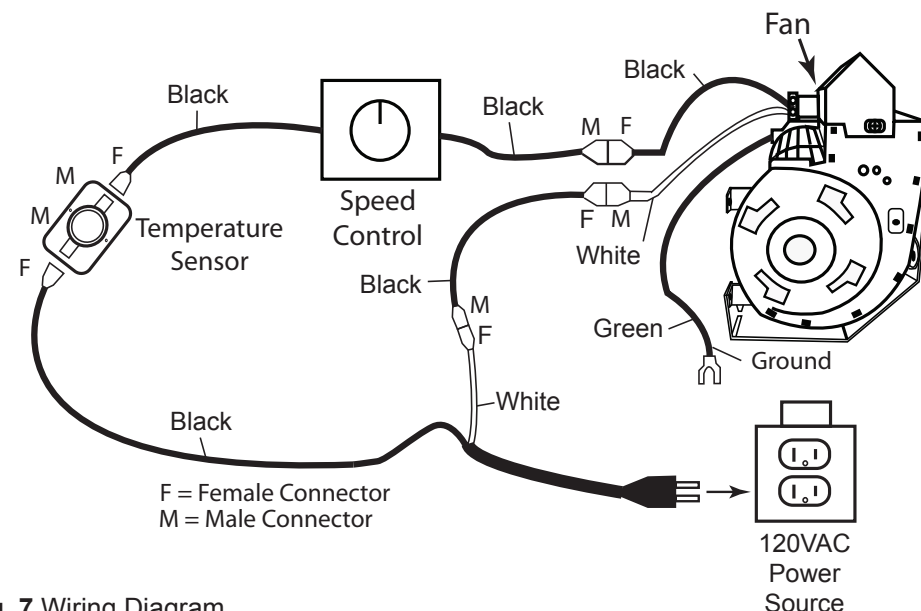

Fig. 7 Wiring Diagram
7. After properly wiring (Fig. 7) the FK-165-RT turn the 120VAC service to **ON** at the circuit breaker and turn your speed control to **ON**. **Note:** The temperature sensor will activate the fan when temperature at the sensor reaches 110°F. This may take 15 to 20 minutes. If after 30 minutes the fan does not turn ON then check wiring, ensure speed control is turned ON and ensure temperature sensor is against the combustion chamber. If sensor is laying directly on the base (floor) of the fireplace the fan may never turn ON.